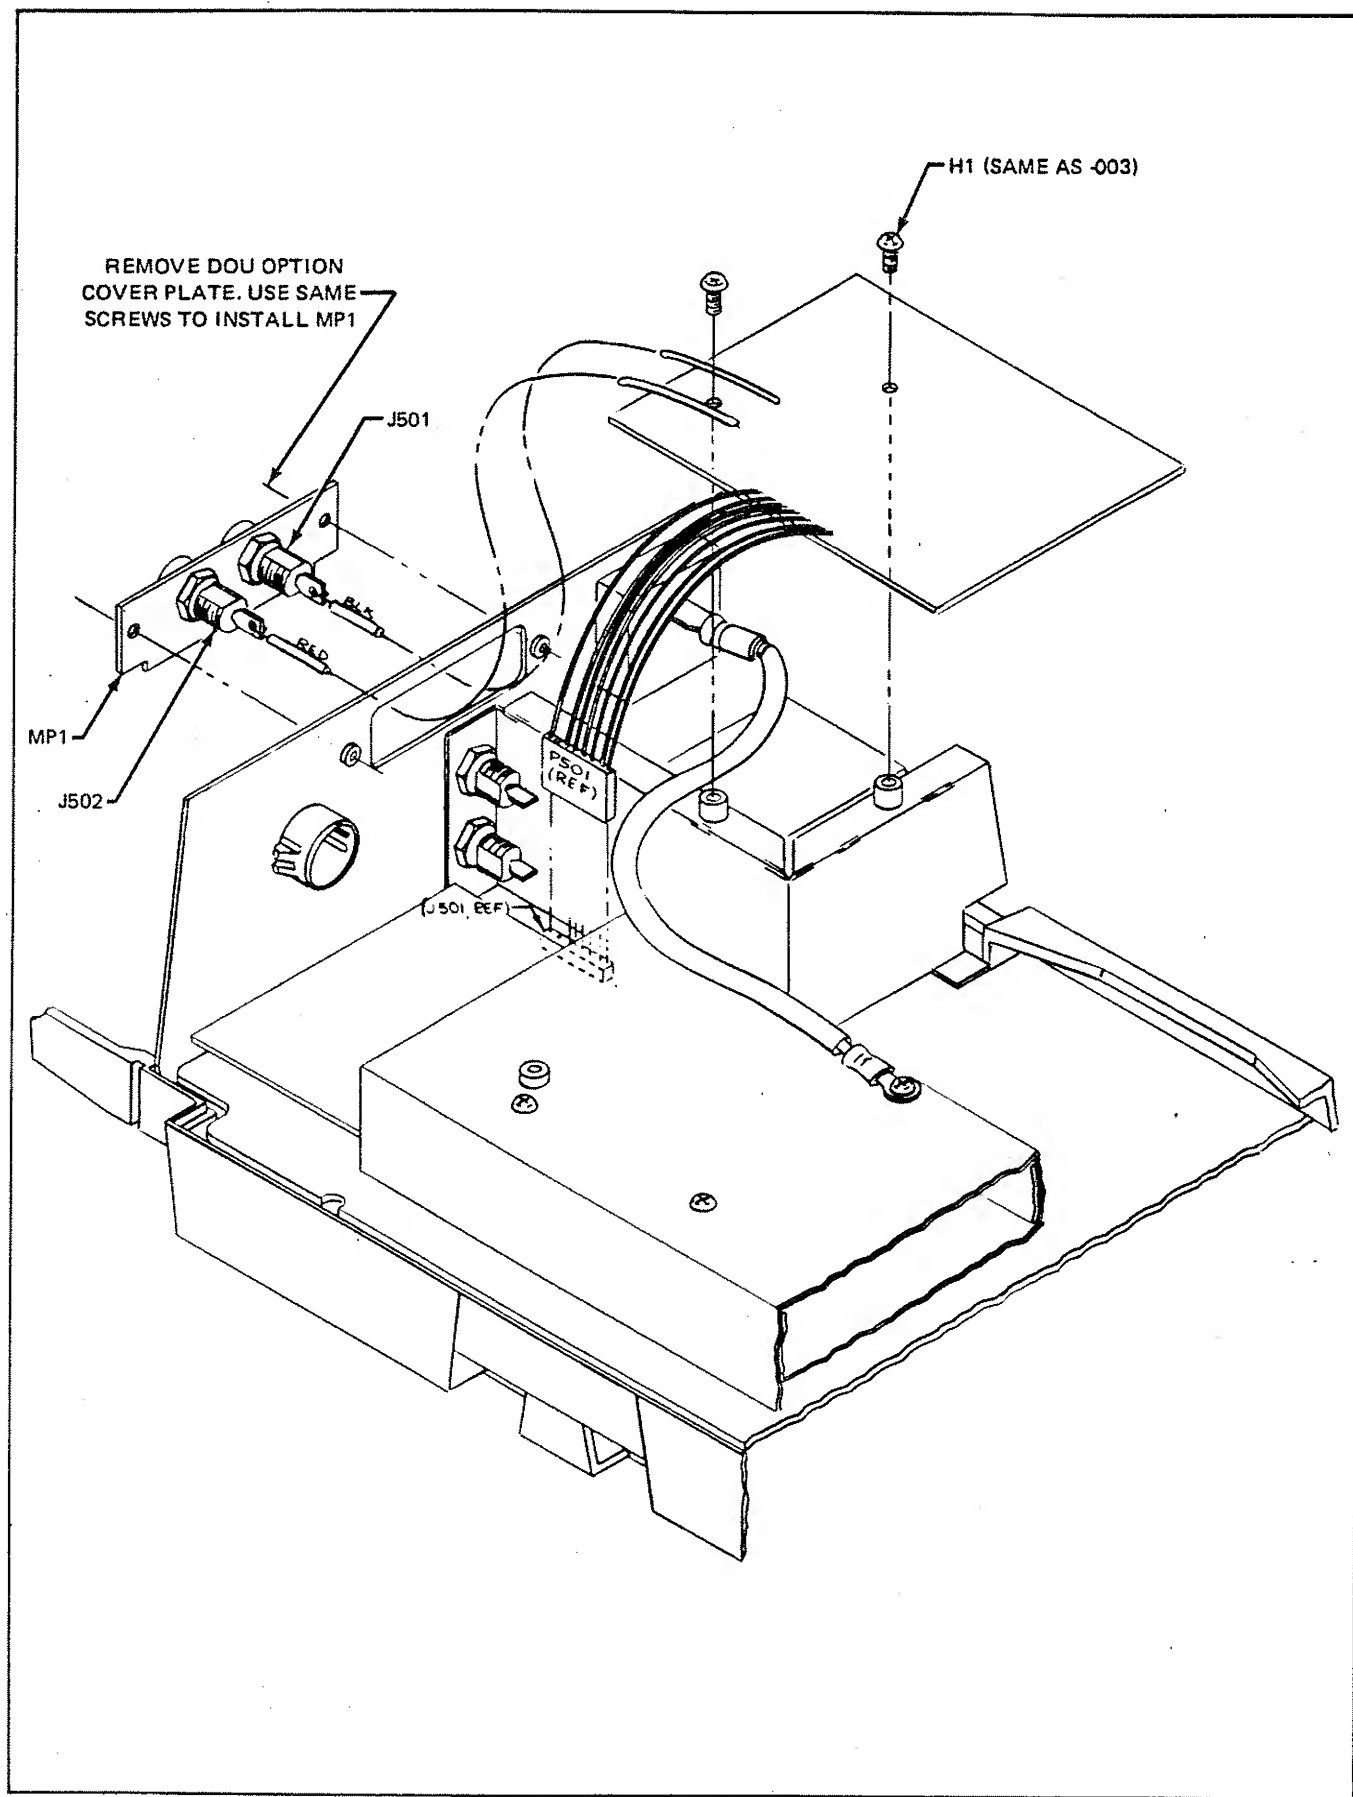

Figure 604-1. Logarithmic Analog Output Option Installation
604-6. The Logarithmic Analog Output Option may be installed on the 8920A only. Install the option as follows, referring to Figure 604-1.
4. Secure the Logarithmic Analog Output Assembly to the top of the transformer bracket (see Figure 604-1) using the two screws provided.
Refer to Figure 604-1